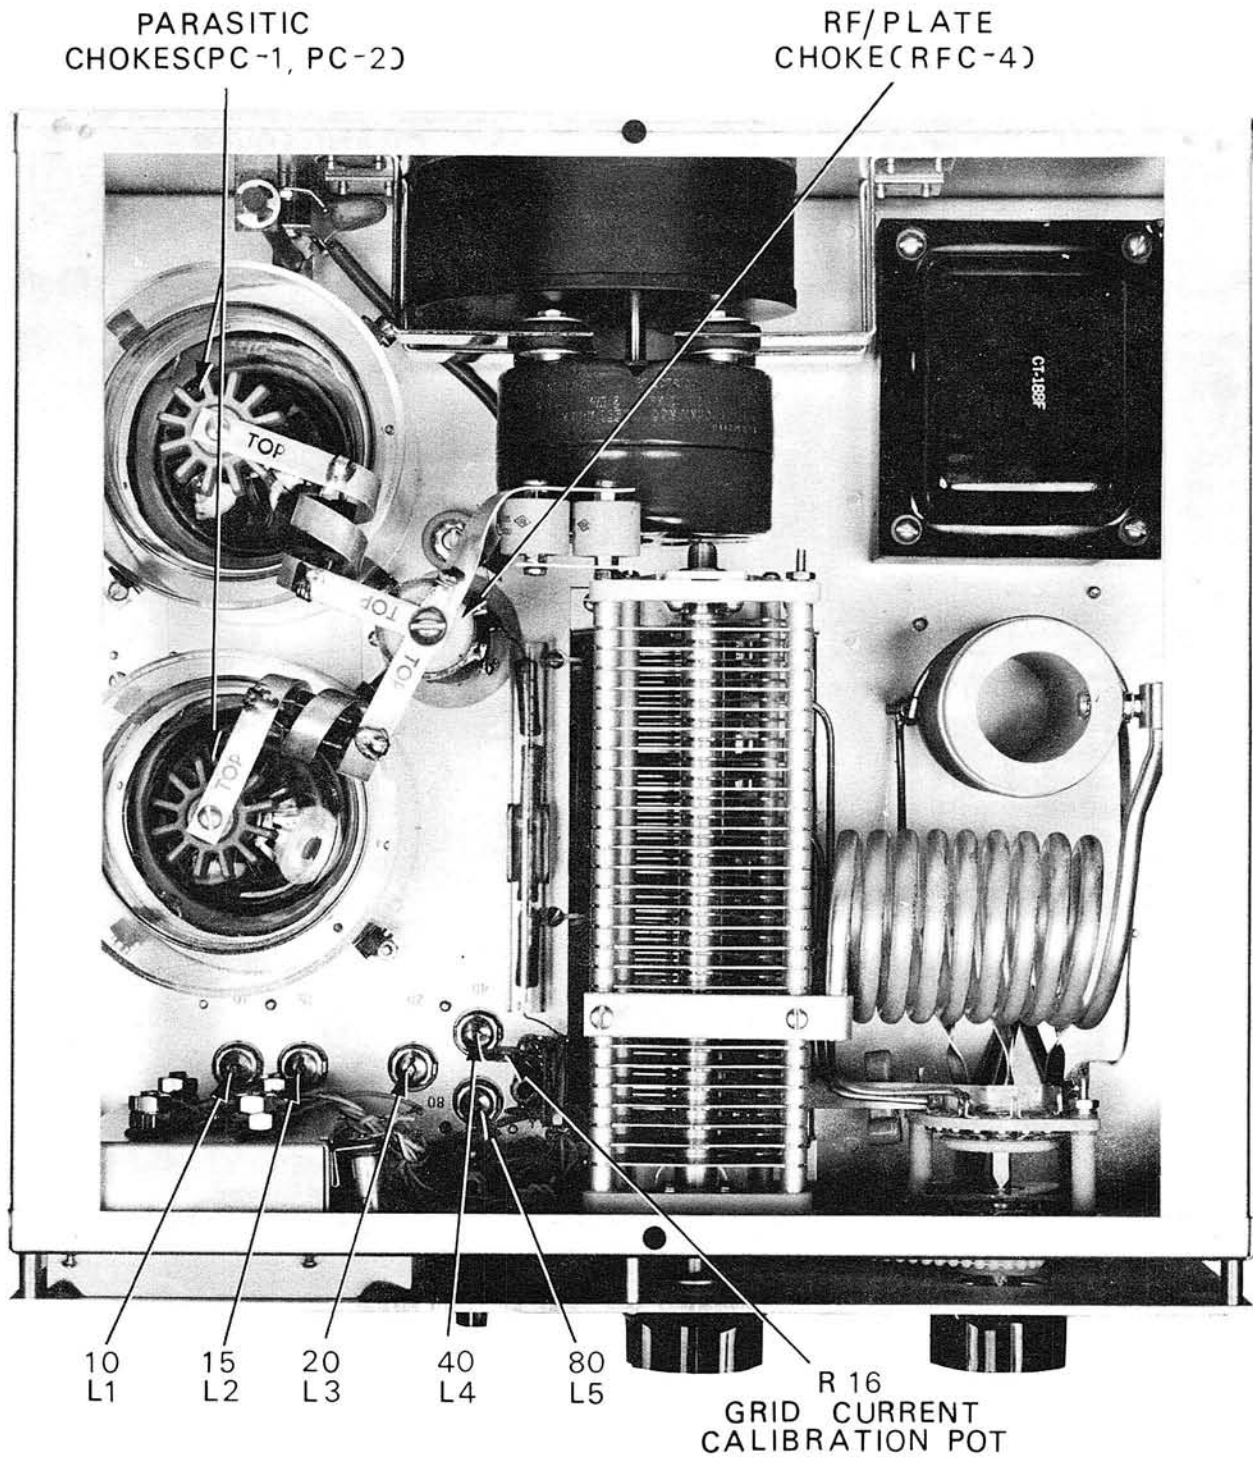

Figure 5-1. Component Locations, Top View
Refer to figures 5-1 and 5-2 as required to locate the components requiring adjustment.
- Refer to figure 5-1. Turn the slug in the correct input coil for a minimum reflected power reading on the SWR bridge.